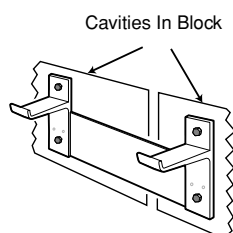

Fig. 1
- 1 Determine desired location to mount Display Unit. Use the enclosed template for alignment purposes. (fig. 1)
- 1 Determine desired location to mount the Display Unit. Within this area, position the Wall Bracket so that the four end mounting holes are located over the cavities of the concrete blocks (refer to Figure 1)